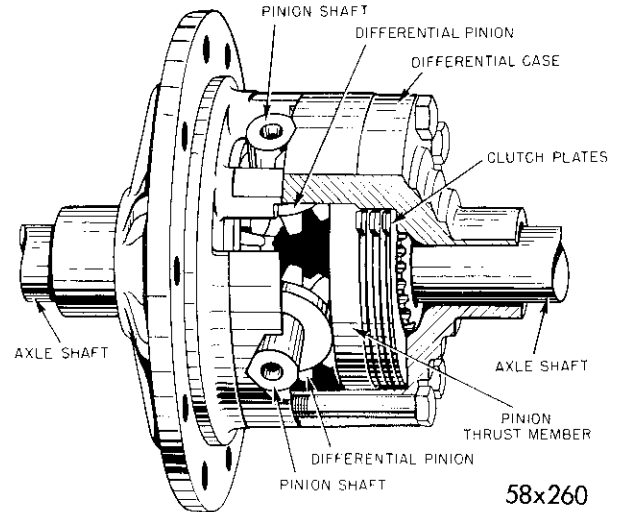

Fig. 32—Sure-Grip Differential (Schematic)
26. DESCRIPTION (Fig. 32, 33, 34 and 35)